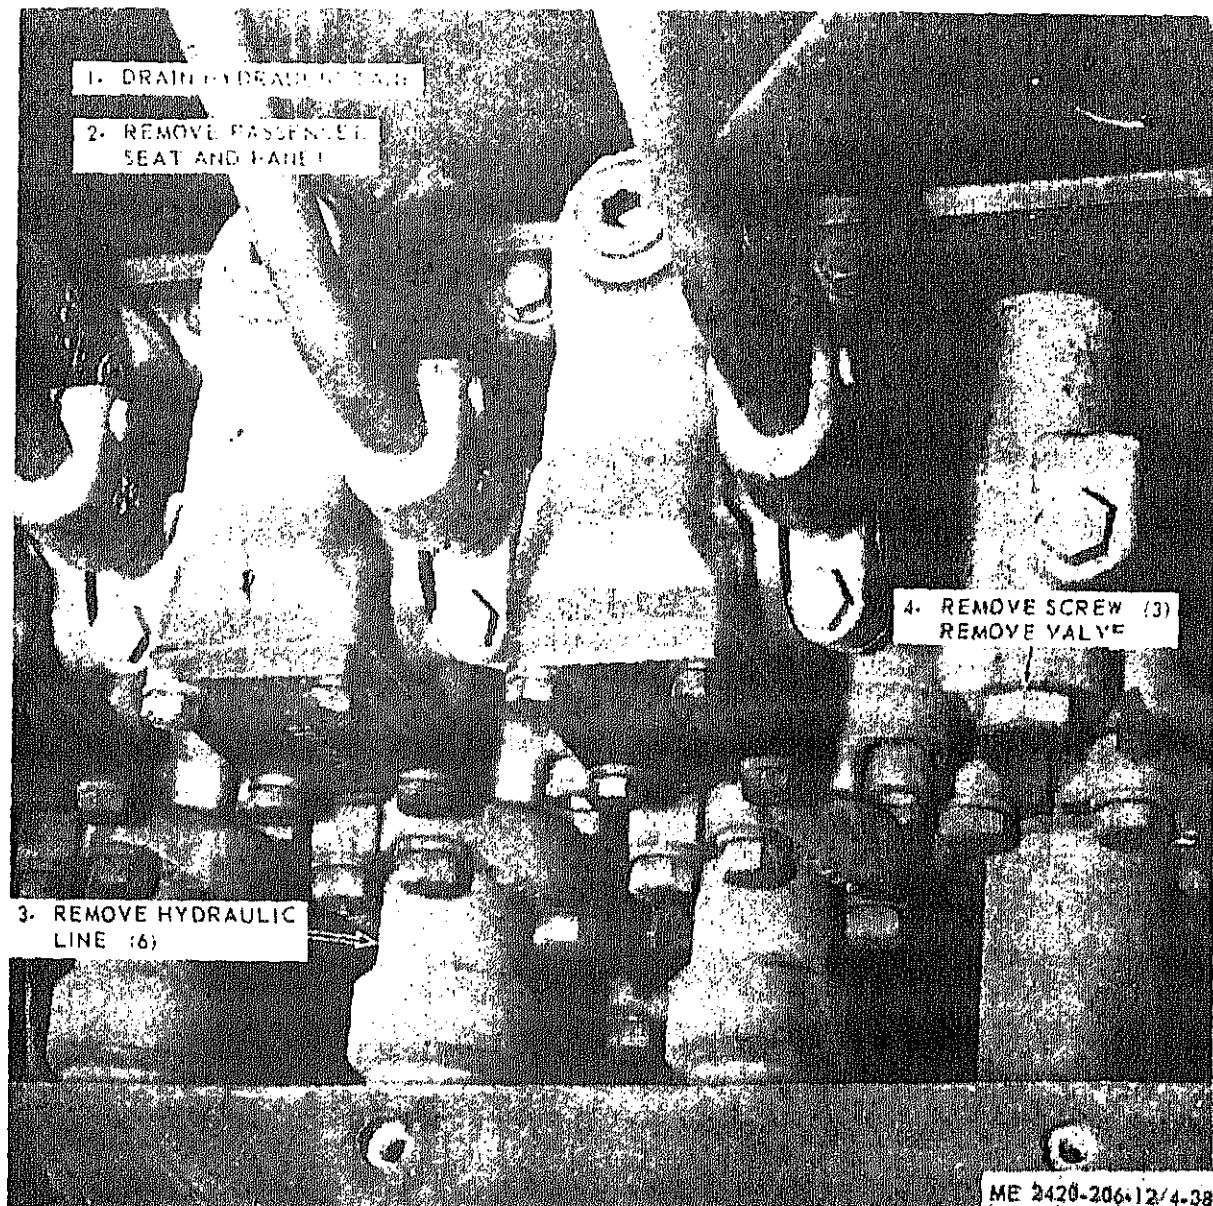

Figure 4-38. Scraper hydraulic valve, removal and installation.
a. *Removal.* Remove scraper hydraulic valve as illustrated in figure 4-38.
(1) Wipe parts and dry thoroughly.
(2) Inspect for cracks, breaks and other age. Replace defective valve.
c. *Installation.* Install scraper hydraulic valve as illustrated in figure 4-38.